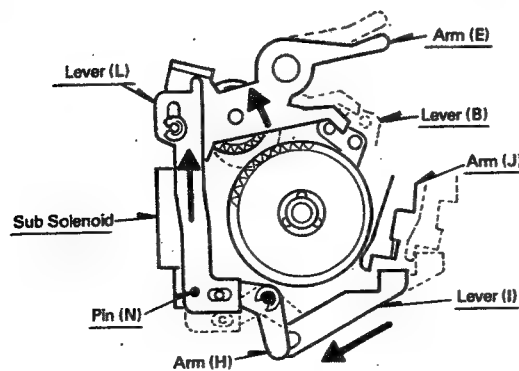
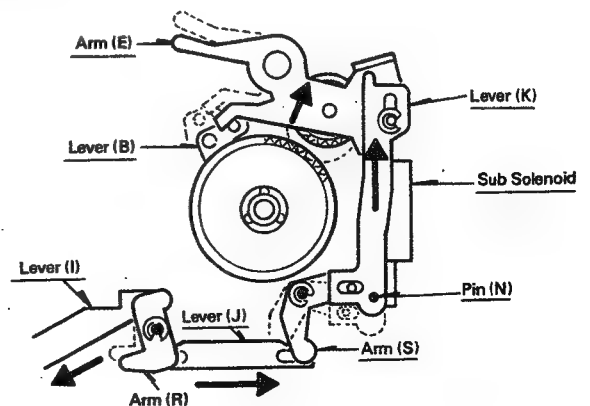

Fig. 21
Fig. 22
1. When the Sub Solenoid in Fig. 21 is activated, Lever (L) which is coupled with the Sub Solenoid and Pin (N) is attracted.
2. Lever (L) causes Arm (E) to rotate, the Idle Gear is disengaged from the Reel Unit, Lever (B) is simultaneously made to rotate, and Claws (A) and (B) for preventing the Reel Unit from reversing are freed.
3. When Lever (L) is attracted, Lever (I) moves in the direction of the arrow via Arm (H), Arm (J) is attracted and the Head Base is released.
4. When the Sub Solenoid in Fig. 22 is activated, Lever (K) which is coupled with the Sub Solenoid and Pin (N) is attracted.
5. Lever (K) causes Arm (E) to rotate, the Idle Gear is disengaged from the Reel Unit, Lever (B) is simultaneously made to rotate, and Claws (A) and (B) for preventing the Reel Unit from reversing are freed.
6. When Lever (K) is attracted, Lever (I) moves in the direction of the arrow via Arm (S), Lever (J) and Arm (R), Arm (K) is depressed, and the Head Base is released.